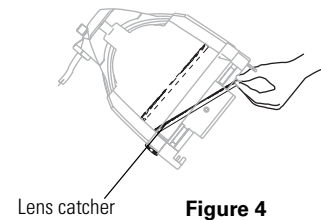

Figure 4
8. When the lens drops, remove your finger, allowing the lens to slide forward until it rests on the lens catchers (**Figure 4**).